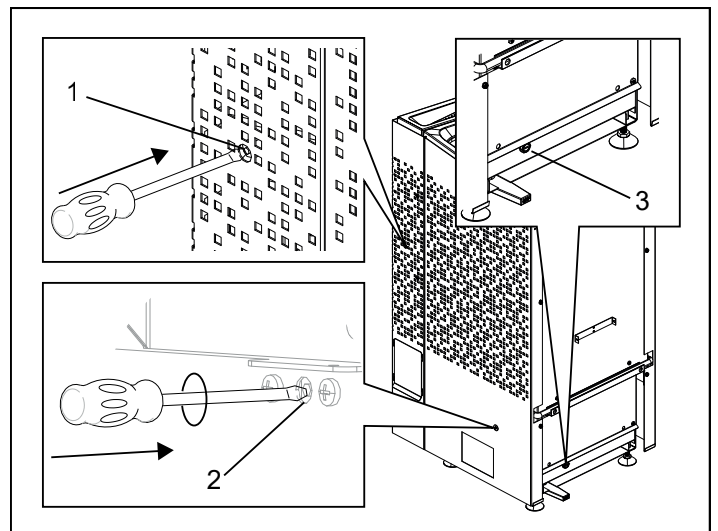

Figure 9: Resetting the temperature cut-out
- **Water reservoir** - The temperature cut-out in the reservoir is designed to protect the heater element from boiling dry. On the left side, seen from front, there is an hole, use a slim object to reset the cut-out, see 1 Figure 9. If the cut-out has activated, the button will feel stiff and will 'click' when reset. If the cut-out has not activated and after resetting, the button will feel springy.
- **Heater** - The temperature cut-out in the heater is there to protect the components, pipe elements and woodwork in the sauna from overheating. On the left side, seen from front, there is an hole, use a slim object to reset the cut-out, see 2 Figure 9. If the cut-out has activated, the button will feel stiff and will 'click' when reset. If the cut-out has not activated and after resetting, the button will feel springy.